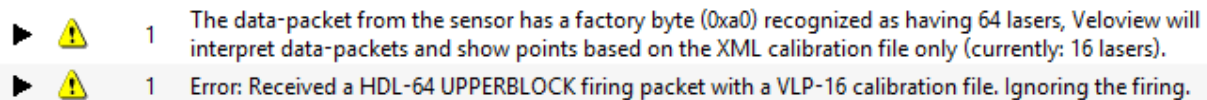

Figure 6 : Error message when number of lasers does not match (VLP-16 instead of HDL-64)
- If the number of lasers does not match between your sensor and the calibration file you may obtain an error like in **figure 6**.